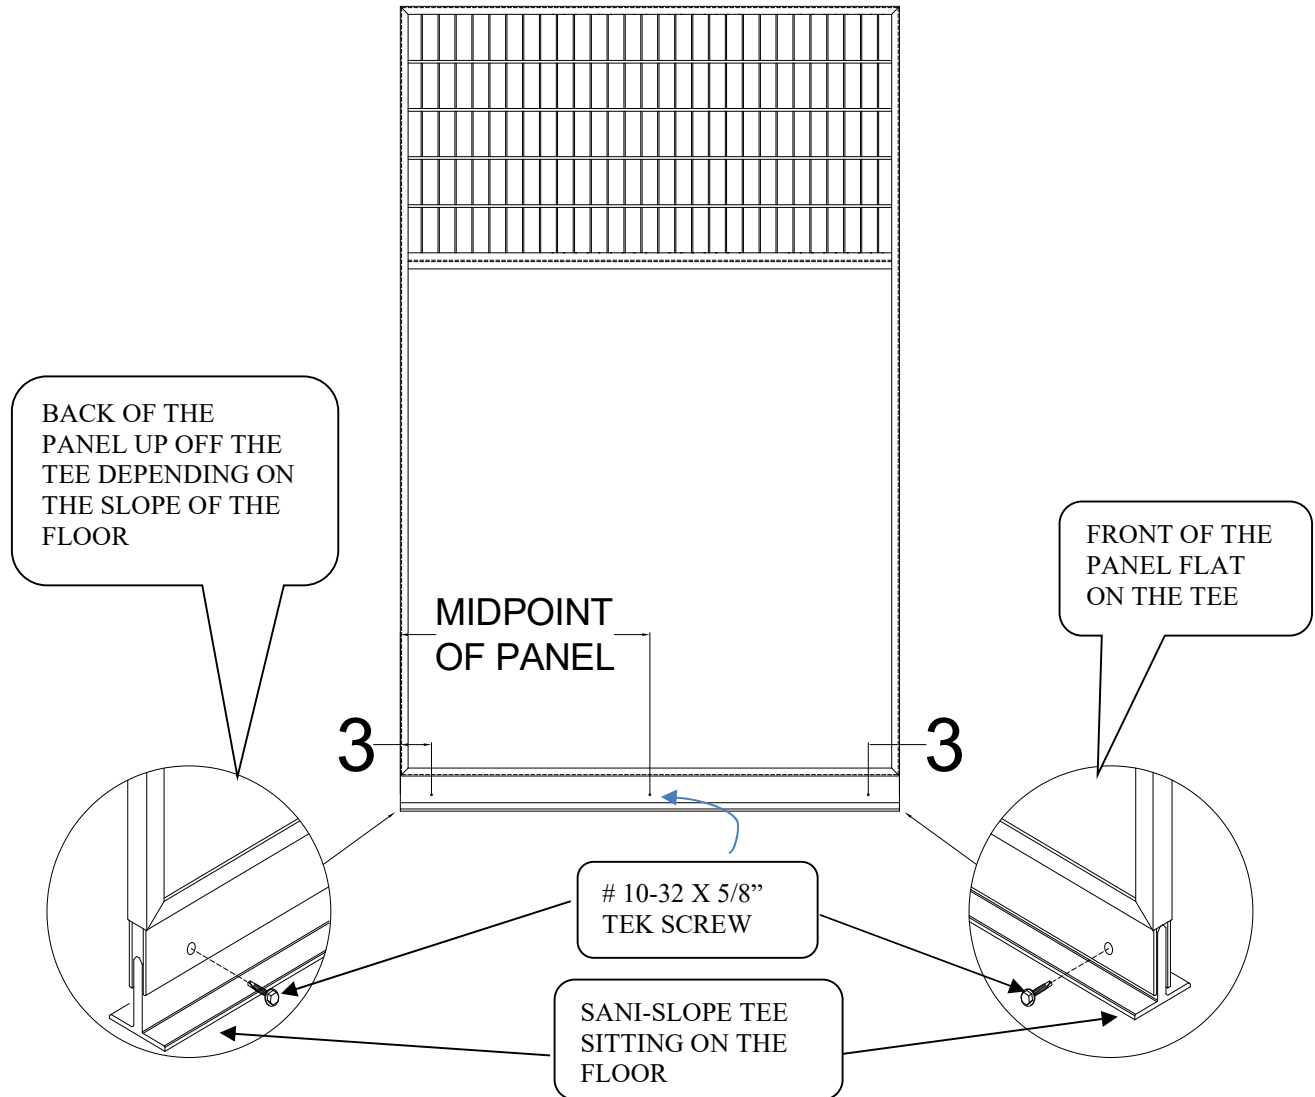

Figure 10
1. Using a hammer, tap all the "Sanislope T's" on the front end of the run, back until they are flush with the front edge of the division panel as shown in Figure 10.
3. While the panels remain level, apply downward pressure to the Sanislope T, drill a 11/64" hole at least 1/2" deep, through the "Sanislope H" at the bottom of the division panels into the "Sanislope T", as shown in Figure 10. After each hole is drilled, drive a #10-32 x 5/8" TEK screw into the hole. Spraying a little WD40 into the hole before driving the screws will simplify the process. (**NOTE:** if your system is using the Silvis Seal, it is the downward pressure on the Sanislope Tee that ensures the Silvis Seal performs properly.)
4. Repeat step D-3 for all screw locations shown on Figure 10 for both division panels.